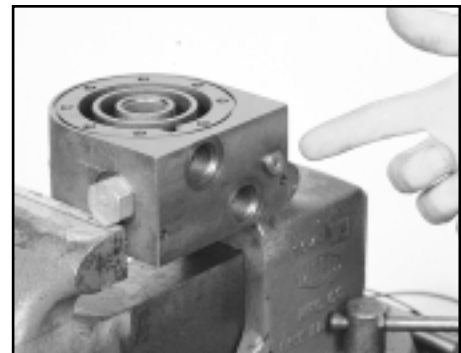

Figure A01
2. Using a suitable installation tool, press the high pressure lip seal (21) into the seal bore (the longer, internal bore) and bottom it against the shoulder. The seal must be installed with the inside lip pointing towards the inside of the motor. Using an arbor press and suitable bearing installation tool, the bearing (14) can then be pressed in after the seal .065" to .085" below the face of the flange.
3. Install the dust seal (20) using a suitable seal driver in the outside seal bore of the flange. The dust seal should be installed with the inside lip facing away from the flange and flush with the flange face.
4. Position the center block so the pilot port or solenoid ports are on your right and lock in the vise. SEE FIGURE A01.